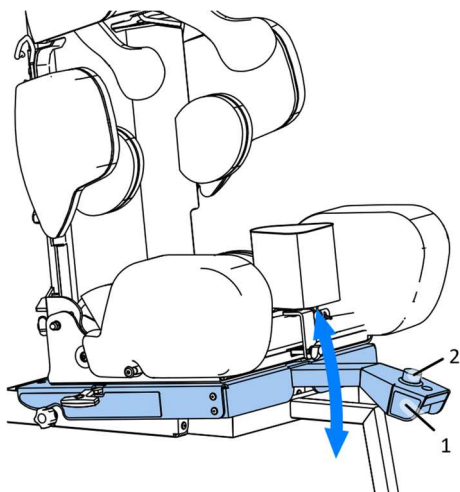

Fig. 24
7.8 Seat tilt angle adjustment Fig. 24